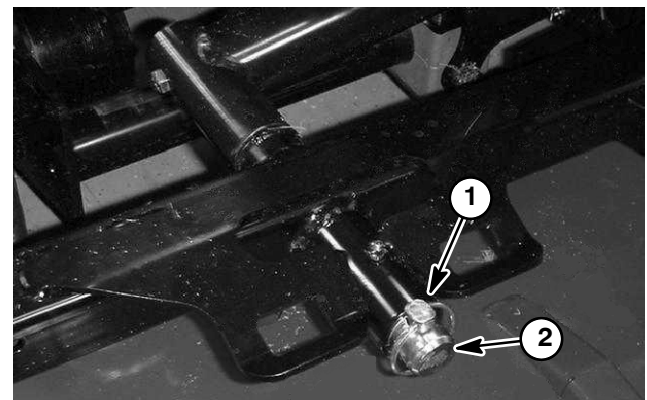

Figure 8
4. Remove lynch pin securing deck carrier frame to lift arm pivot shaft (Fig. 8).
3. Install lynch pin onto the pivot shaft (Fig. 8).